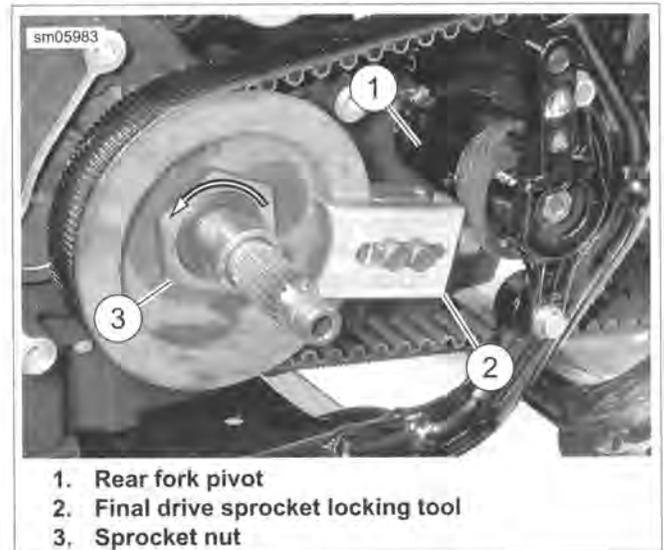

Figure 5-41. Sprocket Nut Removal
4. See Figure 5-41. Install FINAL DRIVE SPROCKET LOCKING TOOL (Part No. HD-46282A) (2) so that arm of tool rests against bottom of rear fork pivot (1).